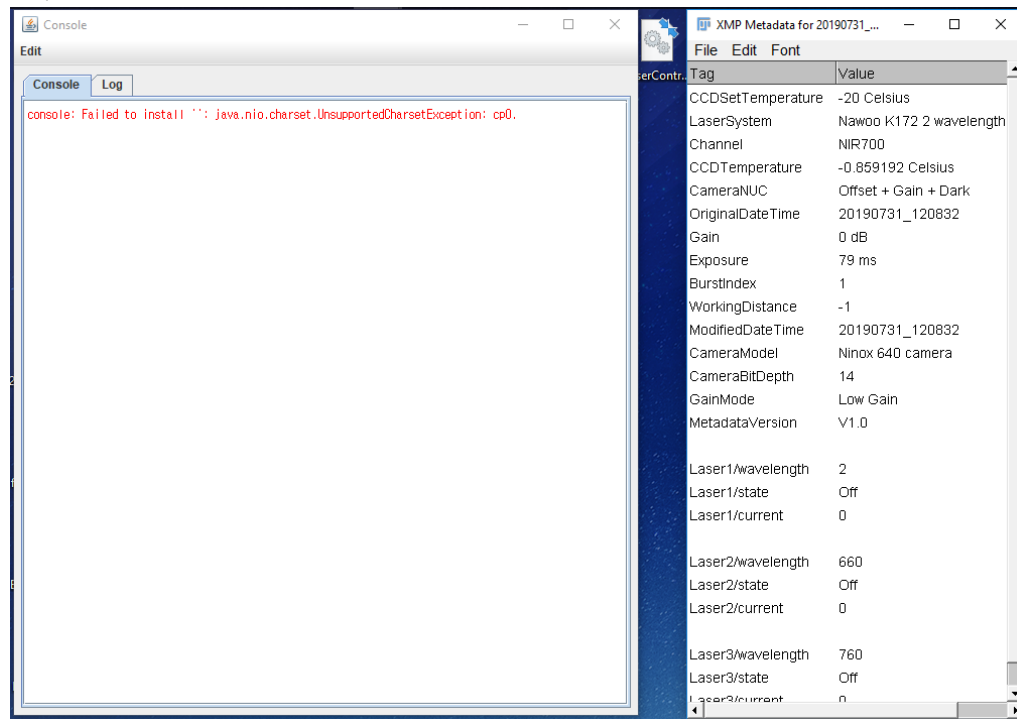

Figure 11: Result of running the plugin
- The first time, a console with an error will open (on the left in Figure 11), you may ignore and close it. Shortly after, another window will open containing the metadata. On the right in the Figure 11.